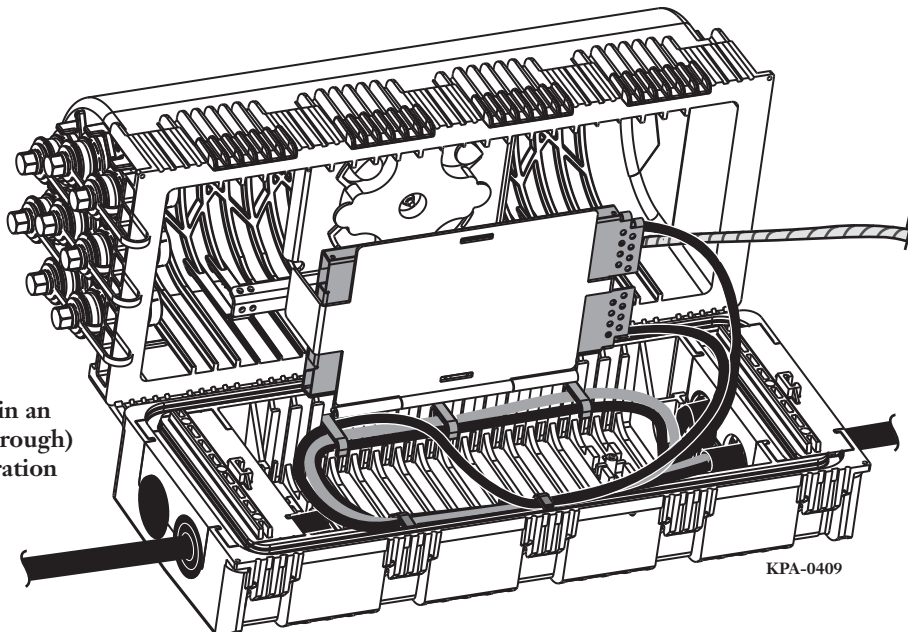

Figure 29
- Step 3:** Route distribution fibers around the inside perimeter of the storage area beneath the tray stacker and secure fibers beneath the buffer tube holders as needed (Figure 29).